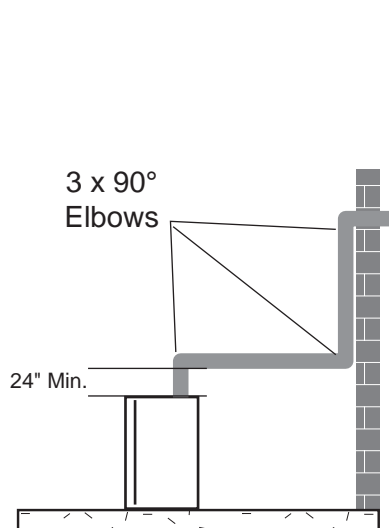
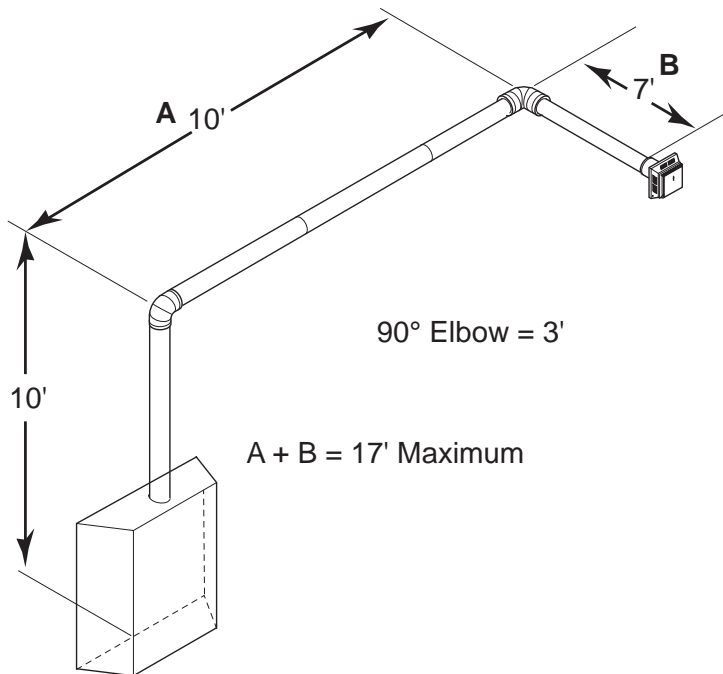

Figure 11 - Maximum Three (3) 90° Elbows Per Installation
Figure 14 - Maximum Vent Run with Elbows
- The maximum number of 90° elbows per side wall installation is three (3). See Figure 11.
- If a 90° elbow is used in the horizontal vent run (level height maintained) the horizontal vent length is reduced by 36". See Figures 11 and 12, page 17. This does not apply if the 90° elbows are used to increase or redirect a vertical rise. See Figure 14.